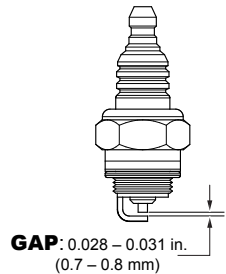

Figure 27. Spark Plug Gap
3. Remove and clean the spark plug (Figure 27), then adjust the spark gap to 0.028~0.031 inch (0.6~0.7 mm). This unit has electronic ignition, which requires no adjustments.